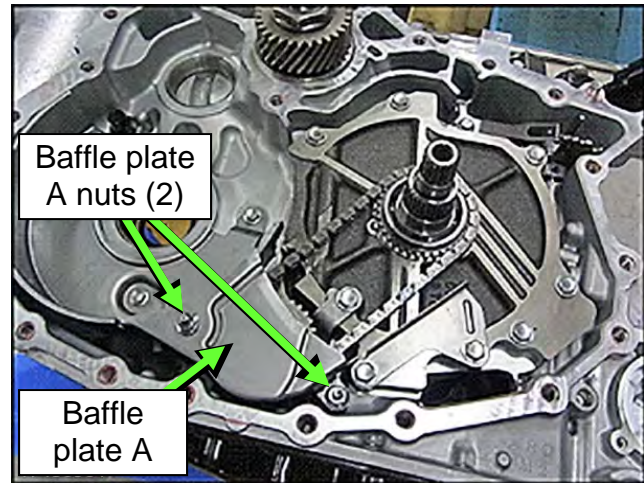

Figure 39
22. Remove the two (2) nuts from baffle plate A, and then remove baffle plate A (Figure 39).